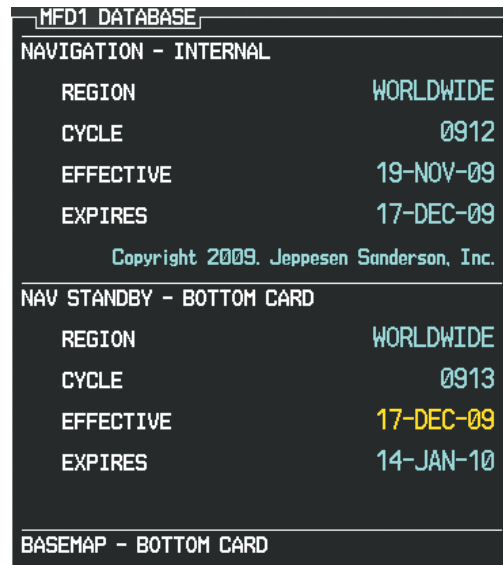

Figure B-15 MFD Navigation Database Information
- 18) Press the Display Database Selection Softkey to show standby navigation database information for each display (**MFD1 DB, PFD1 DB**). Verify the correct standby navigation database cycle information is shown for each display. Figure B-15 shows the navigation database information for the MFD.